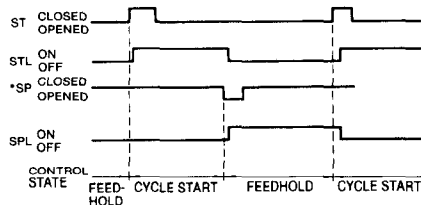

Fig. 20.1
- (2) When the following state is entered after cycle start, the control completes operation control, and turns off the STL output.
- (3) When the feedhold input contact "* SP" is opened during automatic operation, the automatically controlled motions, etc. are interrupted, and at the same time the cycle start output STL is turned off and the feedhold output SPL is turned on. While a block of thread cutting instruction is being executed, the feedhold input is neglected.
- (4) When the feedhold input contact *SP is closed, and cycle start input contact ST is closed and opened, temporary stop SPL is turned off, and automatic operation is restarted. The cycle start output STL is turned on also.
- Timing chart for input of cycle start (ST), feedhold (*SP), and cycle start (STL) and temporary stop (SPL) is shown in Fig. 20.1.